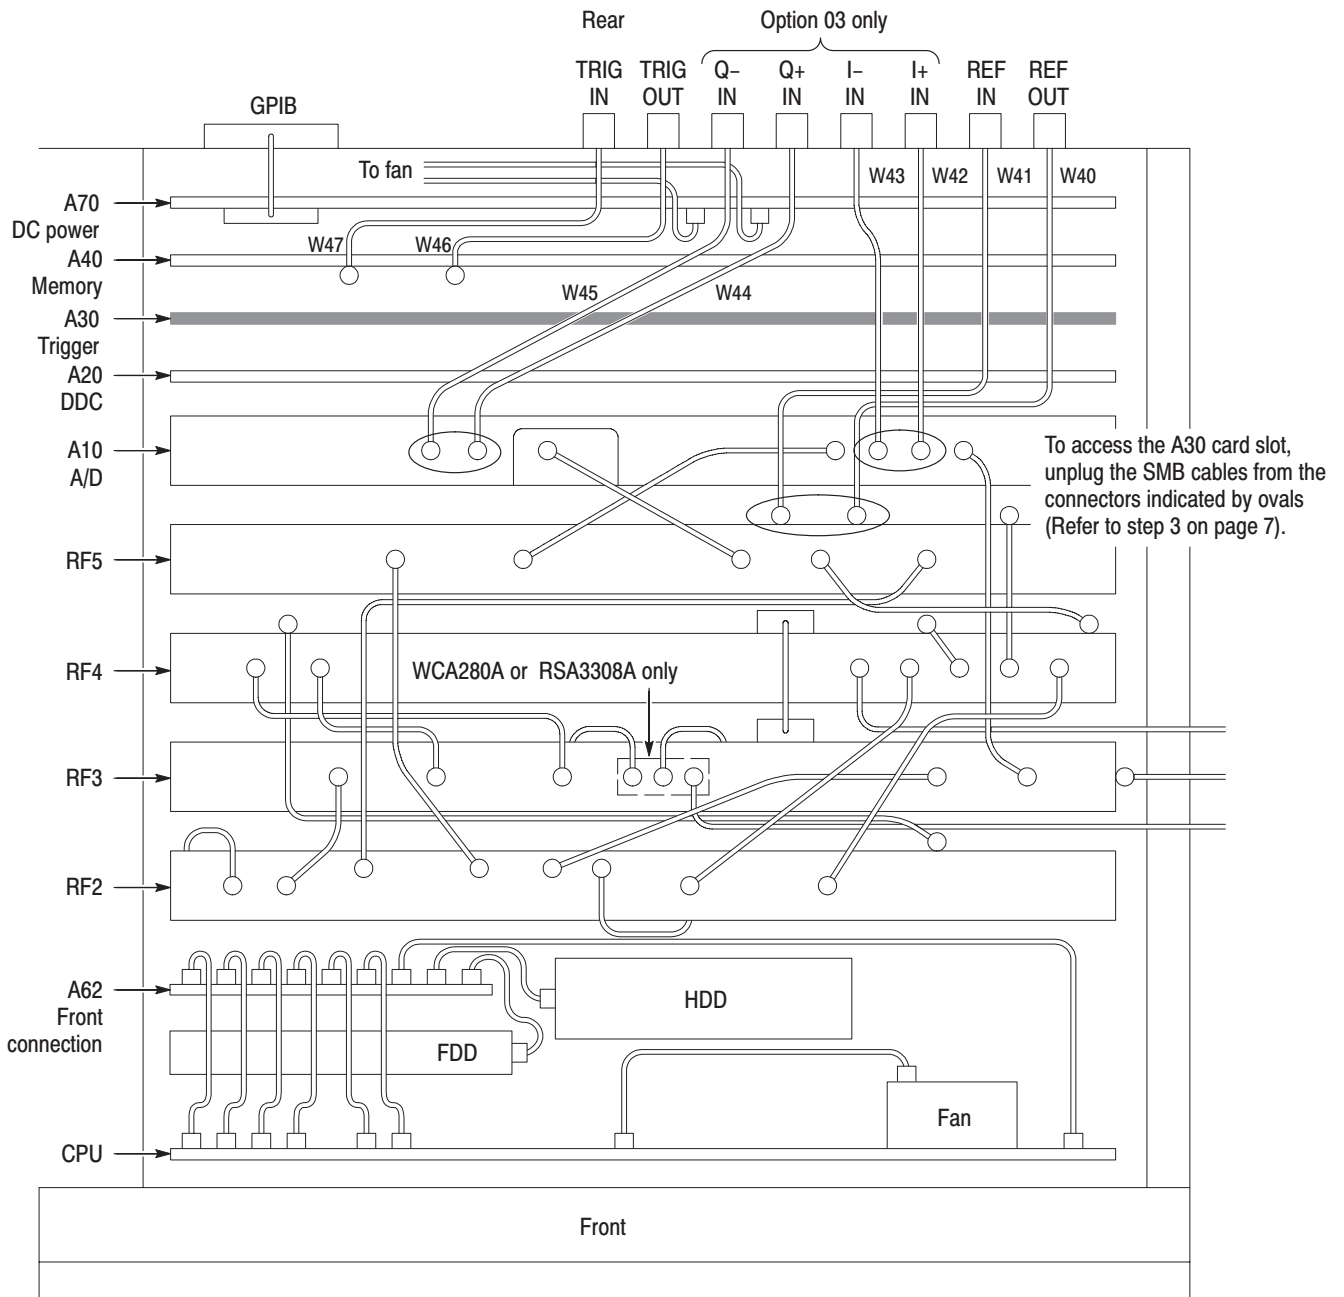

Figure 3: Top view of the card cage
1. Locate the A30 trigger board slot in Figure 3 (top view of the card cage) below.
(See Figure 3 on page 5.)